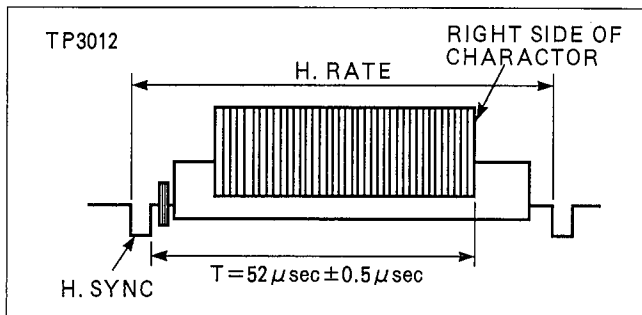

Figure E58
3. Adjust CT6601 so that the "T" becomes $52 \mu\text{sec} \pm 0.5 \mu\text{sec}$ as shown in Figure E58.